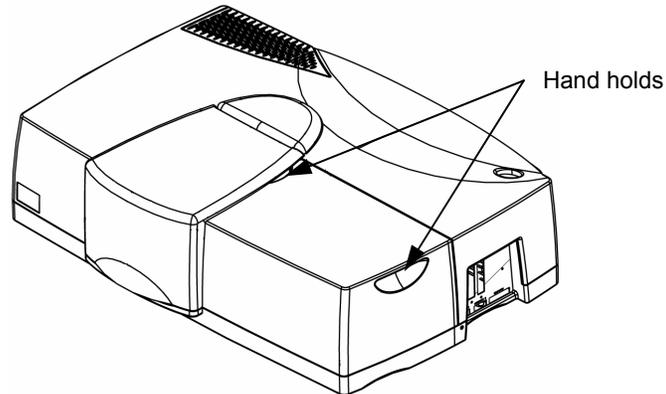

Figure 27 Removing the detector compartment cover
4. Remove the detector compartment cover by carefully lifting vertically using the two hand holds, as shown in Figure 27.